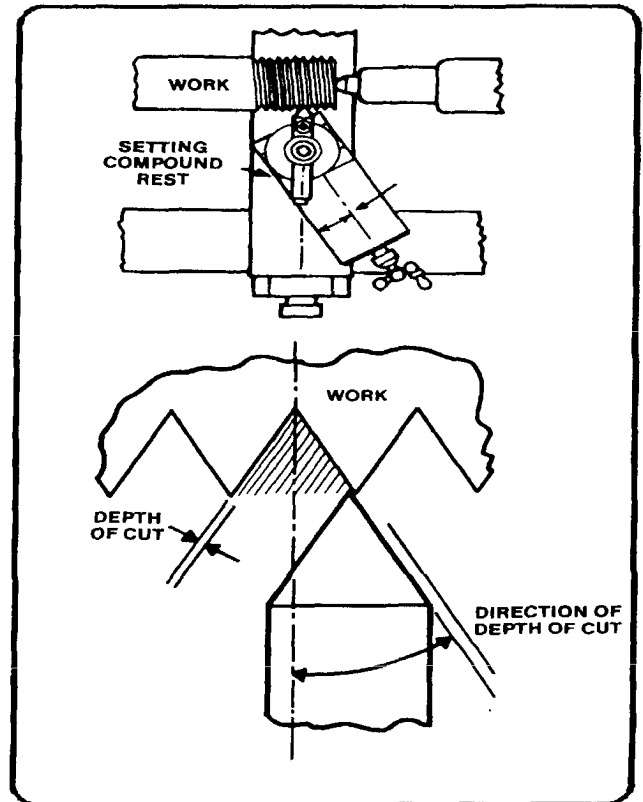

Figure 7-81. External threading setup.
**Direction of feed.** For cutting standard 60° right-hand threads of the sharp V-type, such as the metric form, the American (National) form, and the Unified form, the tool bit should be moved in at an angle of 29° to the right (Figure 7-81), (Set the angle at 29° to the left for left-hand threads). Cutting threads with the compound rest at this angle allows for the left side of the tool bit to do most of the cutting, thus relieving some strain and producing a free curling chip. The direction is controlled by setting the compound rest at the 29° angle before adjusting the cutter bit perpendicular to the workpiece axis. The depth of cut is then controlled by the compound rest feed handle.